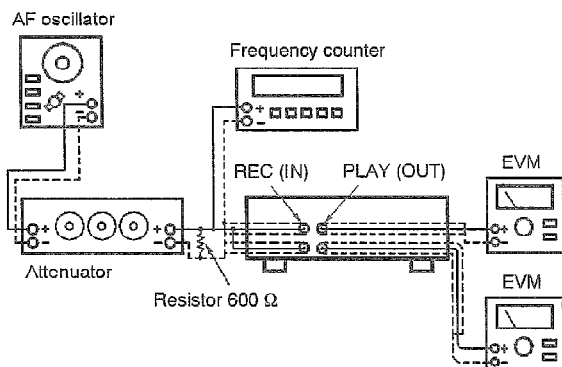

Fig. 12
1. Connect the measuring instruments as shown in Fig. 12.